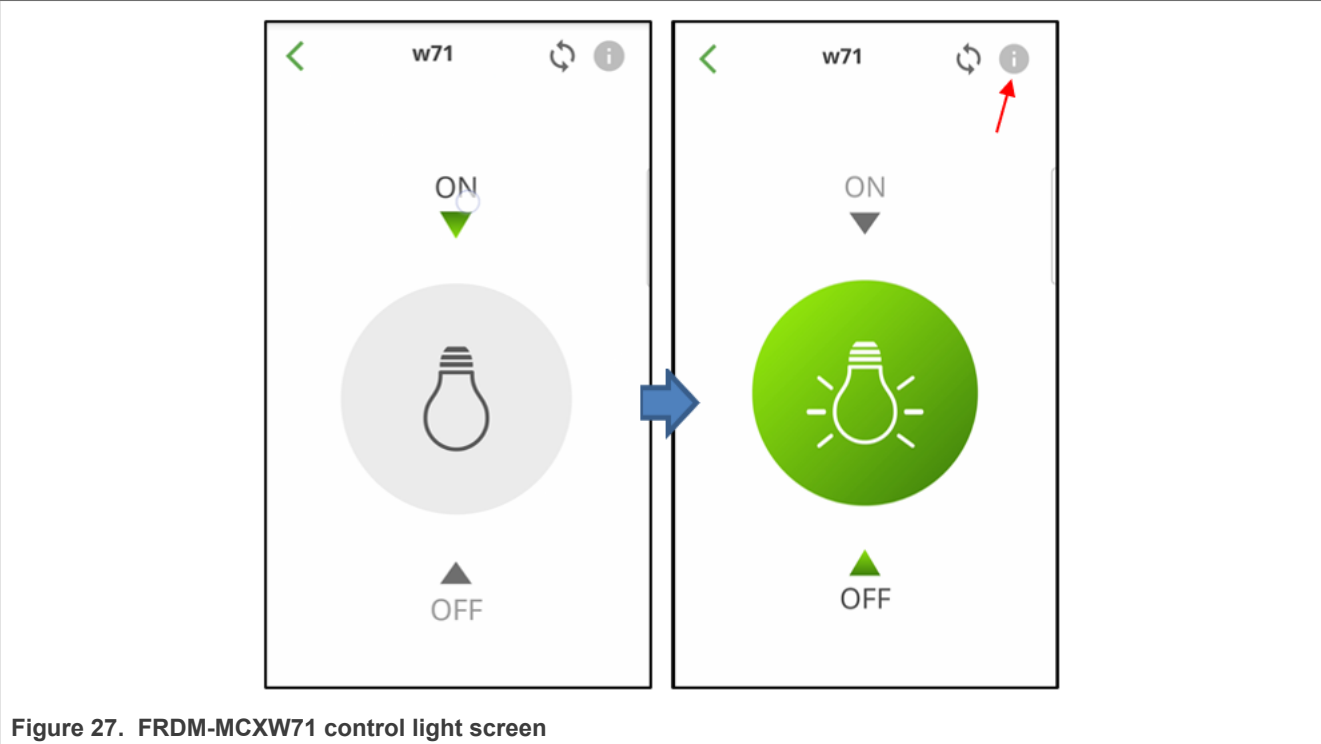

Figure 27. FRDM-MCXW71 control light screen
6. With the use FRDM-MCXW71 switch, click the information button in the upper right corner as shown in Figure 27 to see the FRDM-MCXW71 device information (Figure 28).